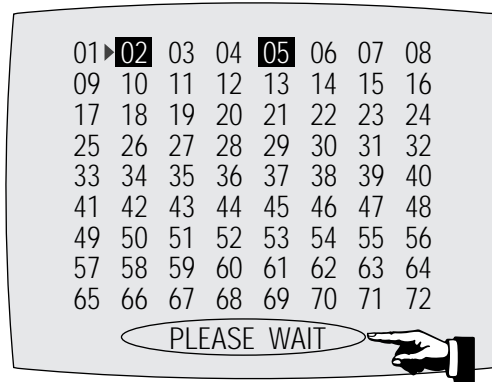

Fig. 5-6
- 5) Press the "MENU" button of remote control again to store the option number. ("PLEASE WAIT" is displayed for a second as shown Fig. 5-6 and this setting is completed.)